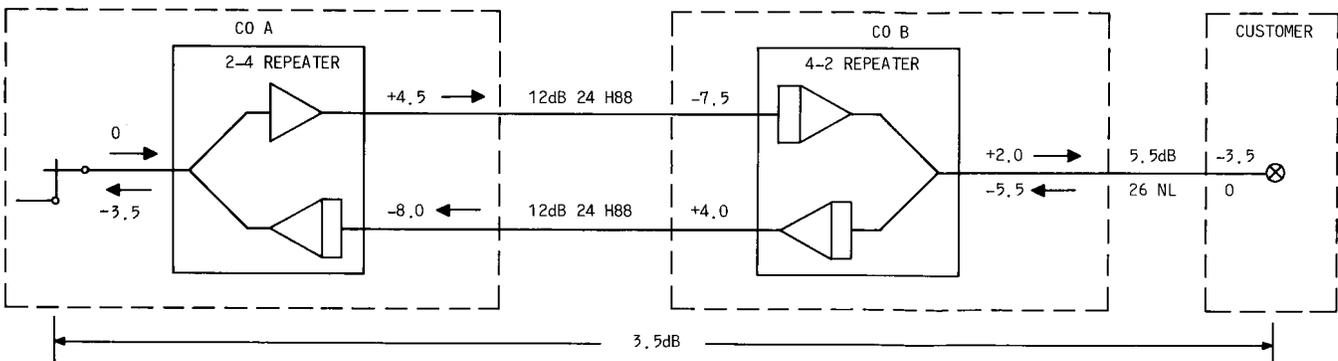

Fig. 13—Circuit With Gain Transfer
6.01 The 4-2 and 2-4 repeaters which are used in intermediate applications should be adjusted so the 4-wire portion of the circuit operates at a net gain. Figure 13 shows an access line which includes a 4-wire portion between central offices and a 2-wire extension to a customer. An MFT 2-4 repeater and 4-2 repeater are located at each end of the 4-wire portion of the circuit and furnish gain for the entire access line.
6.02 As shown in Fig. 13, the overall end-to-end objective is 3.5 dB. Since the 2-wire extension has a 1-kHz loss of 5.5 dB, an output level of +2 dBm is required at the junction between the 4- and 2-wire facilities. The transmission level must therefore be higher leaving the 4-wire portion (+2 dBm at CO B) than entering the 4-wire portion (0 dBm at the switch). Notice also that the receive level at the switch (-3.5 dBm) is higher than the level entering the 4-wire cable from the 2-wire cable (-5.5 dBm). By adjusting the repeaters to the levels shown, the gain in the 4-wire circuit is, in effect, "transferred" to the 2-wire portion of the circuit. If the transmit level at the switch in CO A is defined as the 0 TLP, then the levels discussed above translate directly to TLPs.